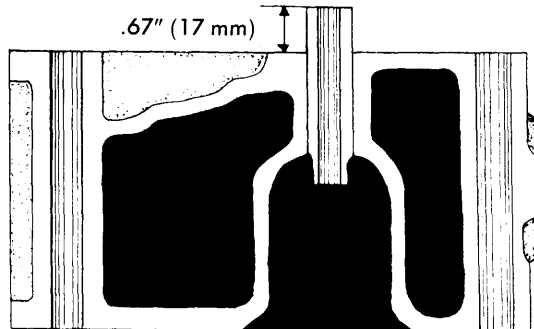

Fig. 4 Intake Valve Guide Installation
2) To replace valve guide, drive guide toward combustion chamber using suitable driver (09201-60011). Using same tool, install new guide from top of cylinder head. Valve guide should extend .67" (17 mm) from top of cylinder head (See Fig. 4 & 5). Intake valve guide length is 2.13" (54 mm) and exhaust guide is 2.32" (59 mm) long. After installing new guide, ream for proper clearance.